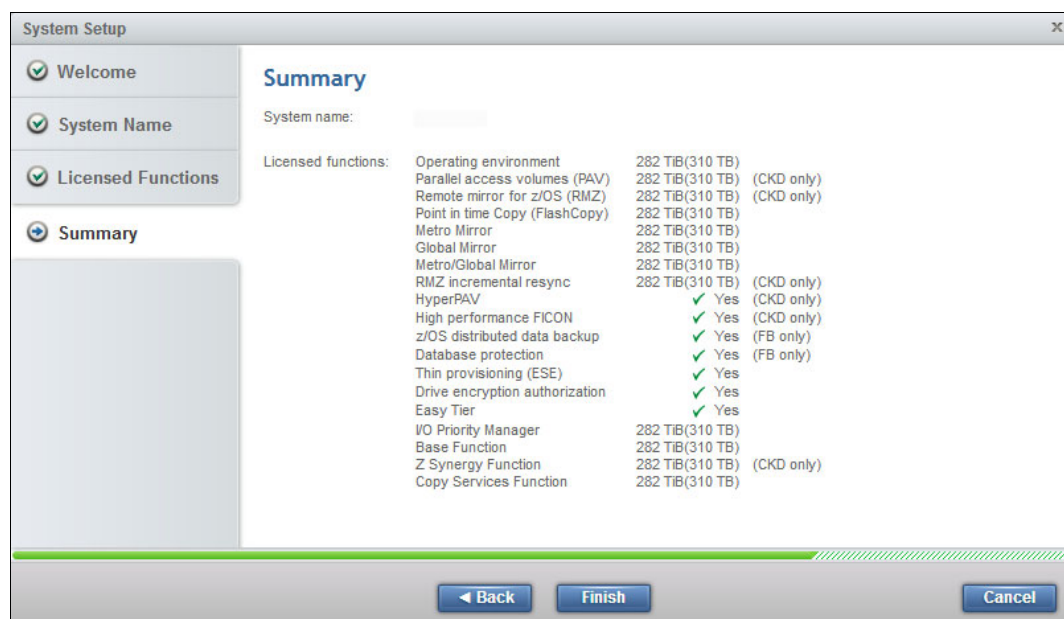

Figure 11-8 System Setup: Summary.
5. Click **Next** to open the Summary window, which is shown in Figure 11-8. If everything looks correct, click **Finish** to exit the System Setup Wizard. After the wizard is closed, the System window opens.